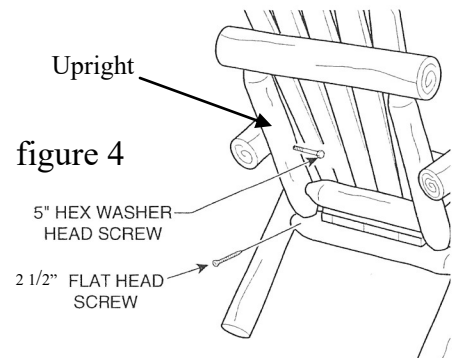
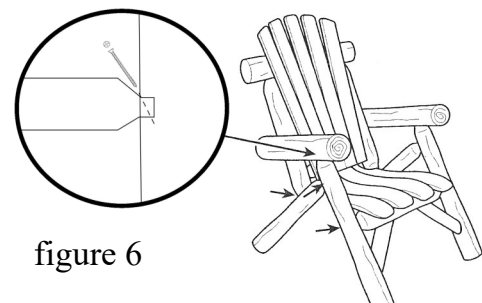

figure 4
figure 6
- STEP 4 Set chair in upright position on a level surface and when legs are in proper position, bring ARM in against UPRIGHT. Tighten the preinstalled lag screws into the pilot hole in the arm with a wrench or socket. Secure doweled joints in place with 2 1/2" screws perpendicular to the doweled ends as shown in figure 4 and figure 6. Repeat on other side.
- STEP 6 Set unit on a level surface and tighten down all lag screws firmly to secure unit. Secure all doweled joints in place with screws perpendicular to the doweled ends as shown in figure 6.